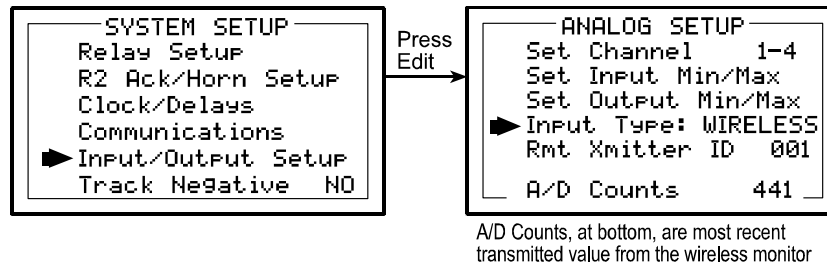

Figure 5.3
Use the **WIRELESS** setting shown at right of Figure 5.3 ONLY FOR COMMUNICATION TO ST-48/RF WIRELESS TRANSCEIVERS.
**Wireless MODBUS** allows one or many ST-90s to function as wireless modbus *slaves* by selecting **wireless MODBUS** in the **COMM SETUP** menu (Figure 5.3). These wireless networks require a modbus *master* such as a DCS, HMI, or another RC Systems Controller equipped with our compatible radio modem. As in all R. C. Systems wireless networks, one transceiver must be designated as Server and all others as Clients. No special configuration is required by the *master* or *slave* since this is a standard modbus network. However, radios must have the same **Hop Channel** and **System ID** settings to communicate.